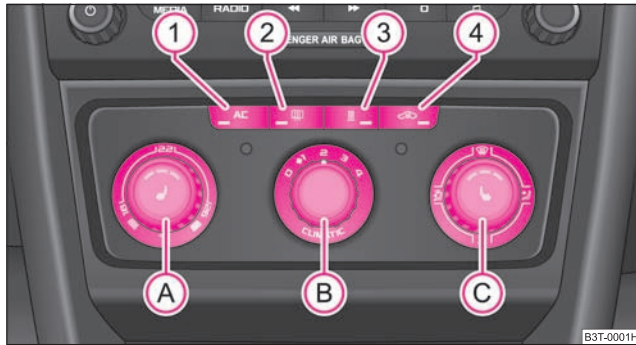

Fig. 110 Climatic: Control elements
The cooling only operates if button  ⇒ page 97, fig. 110  is pressed, and the following conditions are met:
- Turn the control dial (A) ⇒ fig. 110 to the right in order to increase the temperature.
- Turn the control dial (A) to the left in order to increase the temperature.
- Press the button (AC) (1) ⇒ fig. 110. The warning light lights up in the button.
- When you again press the switch (AC), the cooling system is switched off. The warning light in the button goes out.
- Press the button  ④ ⇒ page 97, fig. 110 the warning light lights up in the button.
The recirculated air mode is switched off automatically if the air distribution control  is in position  ⇒ page 97, fig. 110. You can also switch recirculated air mode on again from this setting by repeatedly pressing button .
You can set the air supply to the individual air outlet vents using the control dial  ⇒ page 97, fig. 110. The air outlet vents **2**, **3** ⇒ page 99, fig. 111 and **5** ⇒ page 99, fig. 112 can also be closed and opened individually.
Unwarmed or cooled air will flow out of the air outlet vents according to the setting of control dial  ⇒ page 97, fig. 110 and the atmospheric conditions. ■